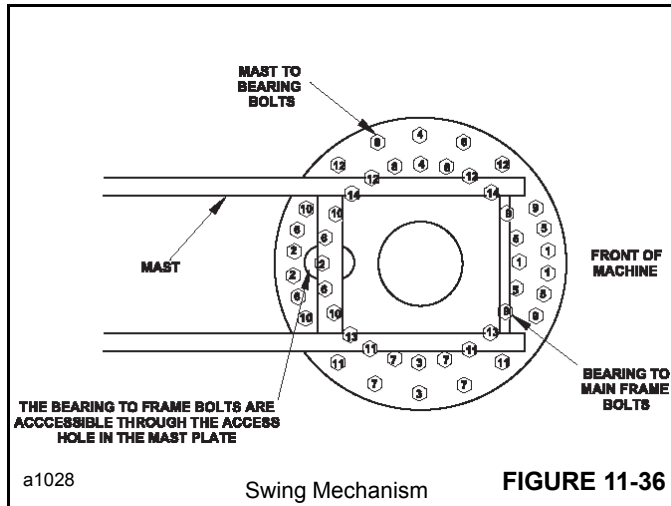

FIGURE 11-36
Use the torque sequence shown in Figure 11-36 when checking the torque on the bolts.
4. Figure 11-36 shows order of tightening the bolts. Each bolt must first be tightened to a torque of 481-552 Nm (355-385 lb-ft) and then loosened slightly. After which, each bolt must again be torqued to 481-552 Nm (355-385 lb-ft).
7. Figure 11-36 shows the order for tightening the bolts. Each bolt must first be tightened to a torque of 312 to 339 Nm (230 to 250 lb-ft), and then loosened slightly. After which, each bolt must again be tightened to a torque of 312 to 339 Nm (230 to 250 lb-ft).